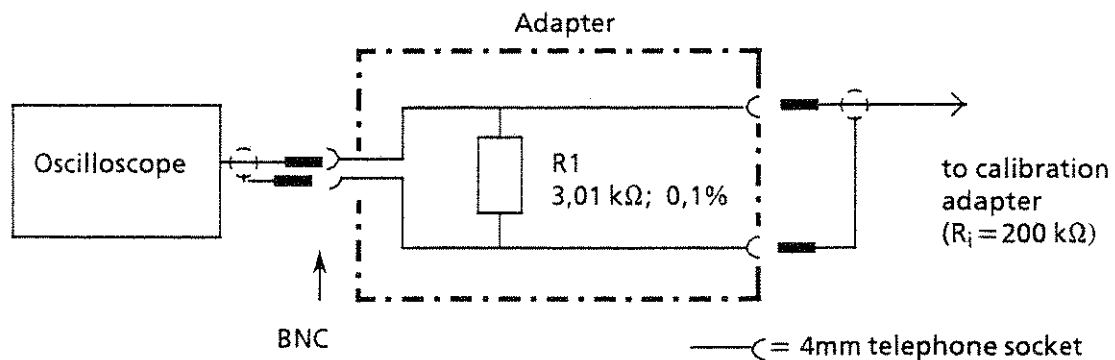

Bild 5-3 Test setup for checking the currents required for temperature measurement
The two constant currents (1 mA / 0.1 mA) are checked using the calibration adapter with an adapter connected ahead (fig. 5-3) in both channels.
- Connect the calibration adapter UZ-9 with connected adapter instead of the calibrator to the NRVD measuring head socket A in accordance with figure 5-3.